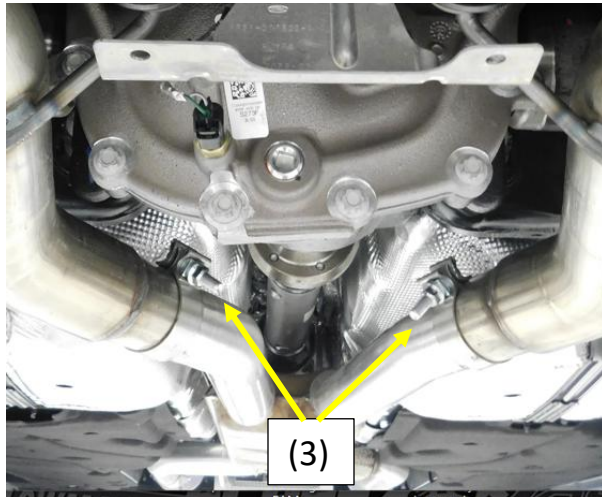

Figure.8
4. Install the supplied band clamp (3) on to the inlet of the Flowmaster Axel Back muffler assembly with the bolt to the inside and nut facing down. **Fig.8**
7. Slip the muffler assembly over the OEM exhaust pipe approximately 3 inches and support the muffler. **Fig.8**